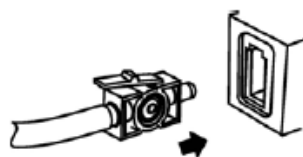

Figure 1
1. The sample cell of the sampling kit must be inserted into the sample cell receptacle of the LoFlo CO2 Module as shown in Figure 1. A "click" is heard when the sample cell is properly inserted.